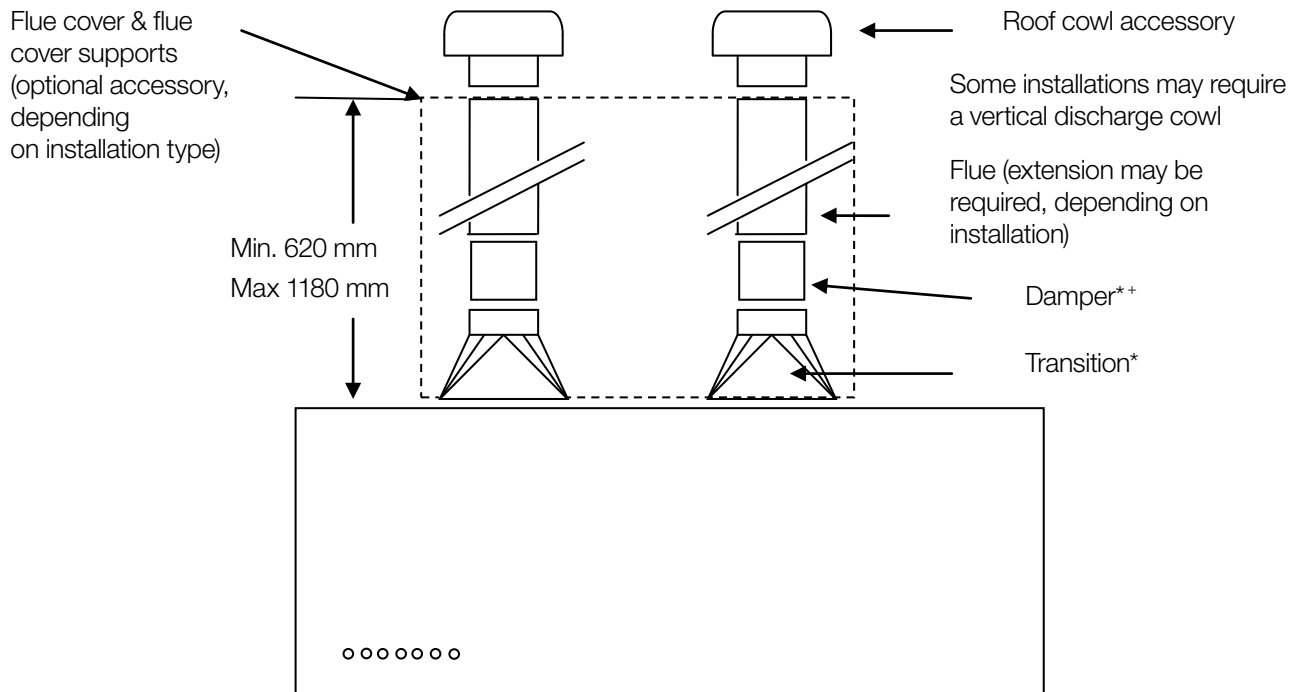

Fig. D1
7. The canopy cooker hood has been supplied with duct transition piece/s, 200mm diameter non-combustible flue pipe must be used with the transition piece/s. Continue the centre line to the ceiling. Fit preferred flue pipe to the fan transition duct (Fig. D1 & D2, see page 11).